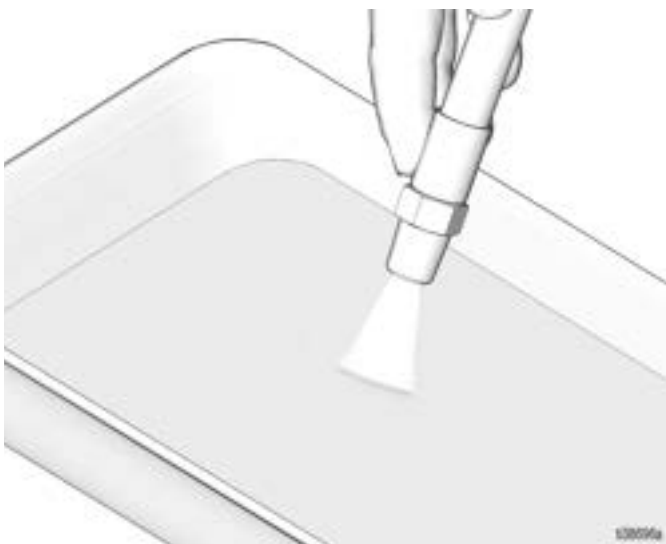

FIG. 11
3. Flush the fluid being dispensed through the equipment until the fluid runs clear of particles or visible contaminants (FIG. 11).